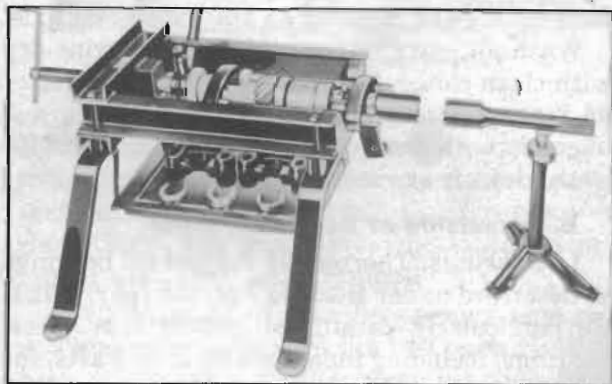

Figure 5-9—Pinion Press J 1292-B
6. Mark pinion and propeller shaft so that parts can be reassembled in the same relative position. File or cut off one end of propeller shaft coupling pin and drive out the pin, then pull propeller shaft from pinion using Press J 1292-B. See figure 5-9.
5. Coat splined end of pinion with white lead to facilitate assembly, then press pinion into propeller shaft until coupling pin holes are aligned, using Press J 1292-B. See figure 5-9. Pinion must not be a loose fit in propeller shaft. Install a new coupling pin and solidly rivet both ends.